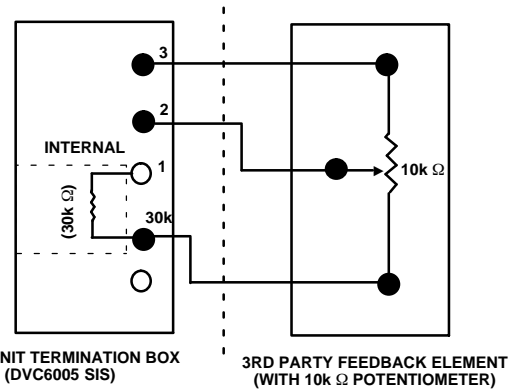

Figure 2-22. Terminal Details for Connecting a FIELDVUE DVC6005 SIS Base Unit and a 10k Ohm External Potentiometer
3. If necessary, install conduit between the potentiometer and the base unit following applicable local and national electrical codes. Route the 3-conductor shielded cable between the two units (refer to figure 2-22).